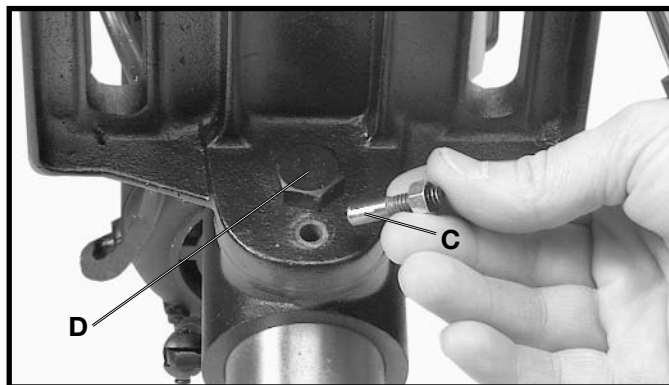

Fig. 22
4. Fig. 22, illustrates the table alignment pin (C) removed. Loosen table locking bolt (D), tilt table to the desired angle and tighten bolt (D). When returning table to the level position, replace table alignment pin (C). This will position the table surface at 90 degrees to the spindle.